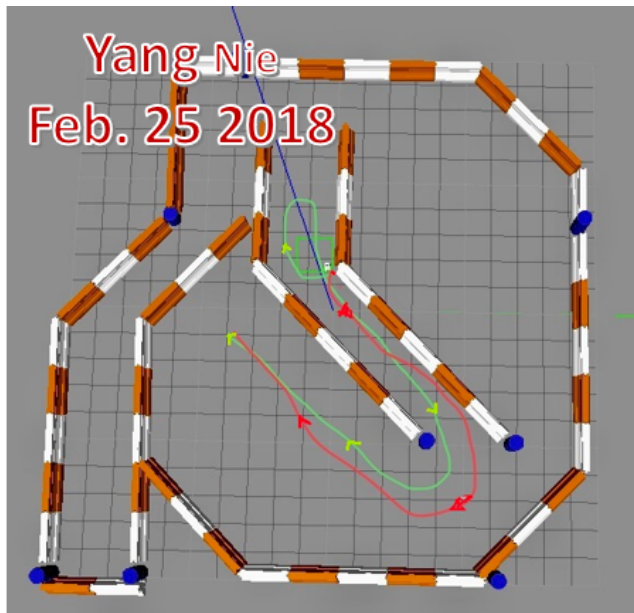

Figure 1.
The navigation trajectory for both robots is a green line route, the robots arrived to the goal in the end. The problem is that robots need to go up then make a cycle turn first in the map (Figure 1) and this cycle turn routing wasted time. The better navigation approach is followed red line, it goes to the target position directly.
- Both robots started forward to dead end direction, then turned back to reverse point (Figure 1). The further study needs to involve to find out this is an algorithm issue or parameter turning problem.